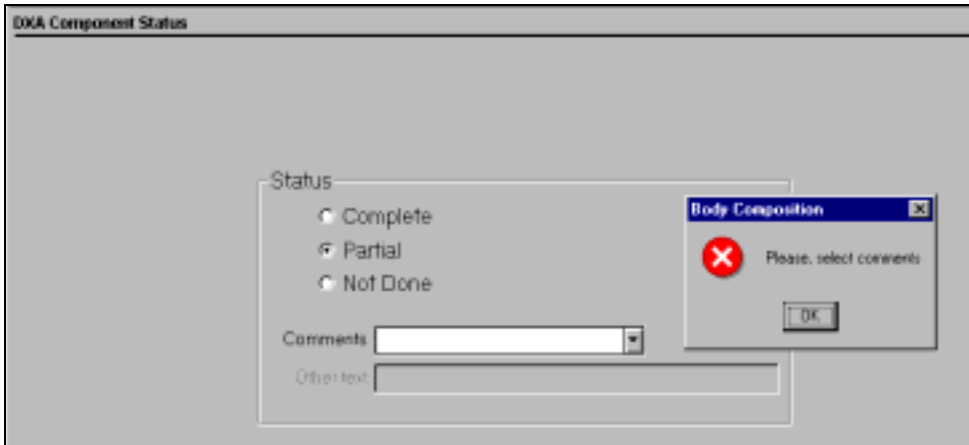

Figure 4-35. DXA component status (required comments)
- The BIA data capture screen is shown in Figure 4-35.